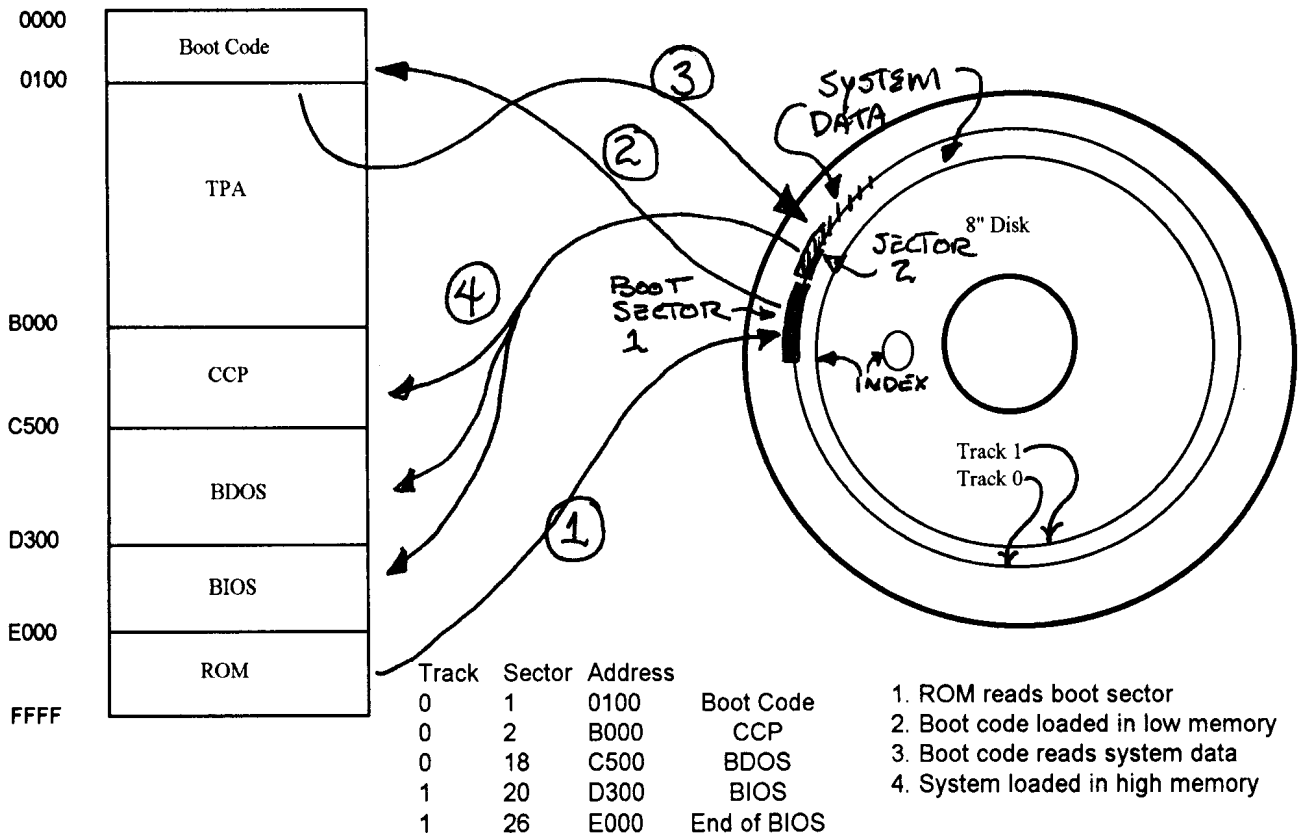

Figure 1: The boot-up process, with representations of code in ROM and the sequence of system code on disk.
For most systems, there is a small bit of ROM (read-only memory) buried on some card that is "jumped" to at power-up or reset (see figure 1). For our purposes, this code eventually loads in some "boot" code from a floppy diskette, which will in turn read in the "system" code on the disk containing CP/M and the BIOS that is particular to your system. Because the first track of the disk (track 0) is the easiest to find, the boot
code is contained on track 0, sector 1. The system code will follow, on the rest of the sectors of the first track and for all the sectors of the second track. Figure 1 shows a layout of these two tracks for an 8" SSSD diskette. (Hint: different manufacturers may use slightly different schemes! Use DU (See Sidebar) to get familiar with how **YOUR** boot tracks are laid out!) The boot code in the first sector is read by the ROM (1) into a convenient memory area (usually address 0) (2) and executed. The boot code in turn reads the rest of the sectors (3) into the high end of memory (4) and then jumps to the CP/M starting address (of the code just read in) to initialize and run CP/M. (Hint: some systems follow this sequence with the load of a more complicated BIOS from a file.)